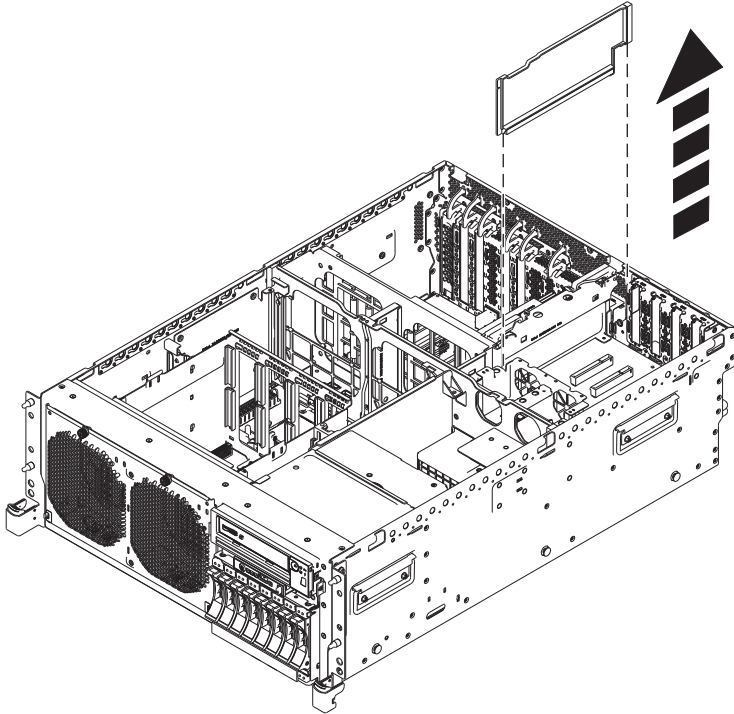

Figure 3. Removing the PCI riser air divider
23. Remove the PCI-riser air divider. Firmly grasp the PCI-riser air divider and lift it upward. See Figure 3 on page 9.